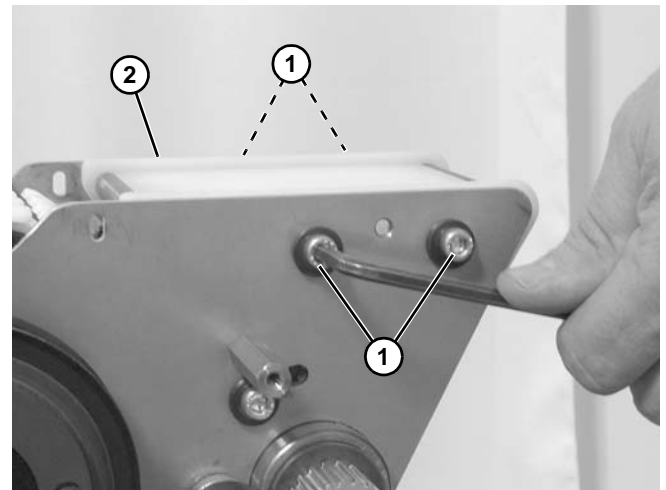

Figure 130
- Remove four socket head screws (Figure 130, item 1) holding wear bar assembly (Figure 130, item 2) onto power transfer.